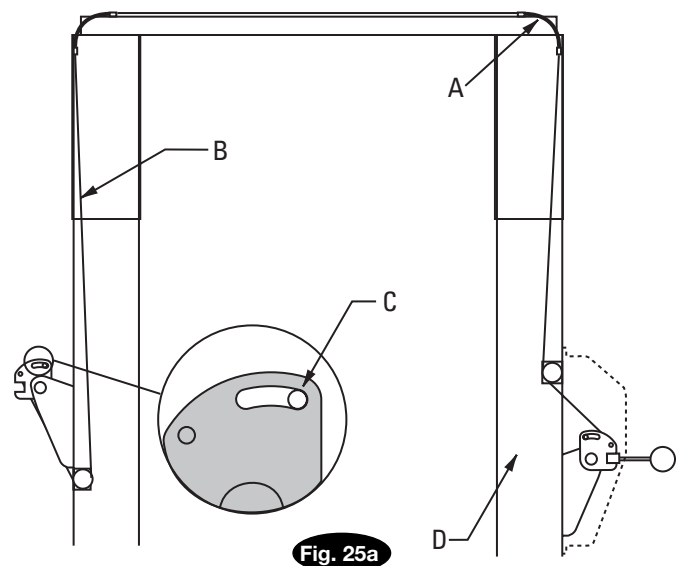

Fig. 25a Detail
- Attach latch cable conduit guide brackets to overhead as shown, Fig. 25a & Fig. 25b. Always use the holes on the approach side of the lift. HHCS should be in hole nearest the center of the overhead, Fig. 25b.
- Route cable up inside column and through the latch cable guide, Fig. 25a & Fig. 25b.
- Continue routing cable to the left column latch cable guide, Fig. 25a & Fig. 25b, routing the cable through the left column latch cable guide, Fig. 25b.
- L) Next, pull the control plate down, Fig. 25a & Fig. 26, to eliminate any clearance between the control plate slot and the latch dog pin, Fig. 25a.